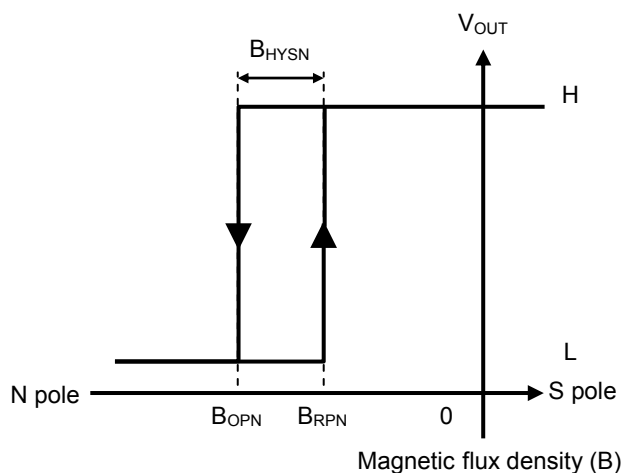

**Figure 13**
**Figure 13** shows the relationship between the magnetic flux density and  $V_{OUT}$ .